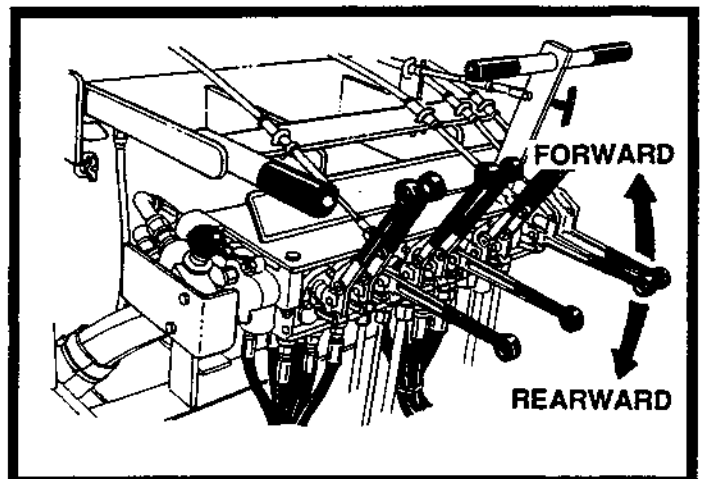

FIGURE 3
The forward/reverse plus turning will require coordinated movement. The steering levers along with the interconnected hydraulic components make possible the positive control necessary. The following procedures plus illustrations in figures 3 and 4 will provide a working knowledge of operating the paver through forward/rearward and turning requirements.
2. To drive the paver forward, pull up on the steering levers together from the neutral position. To back up, push down on the steering levers from the neutral position. Refer to figure 3.